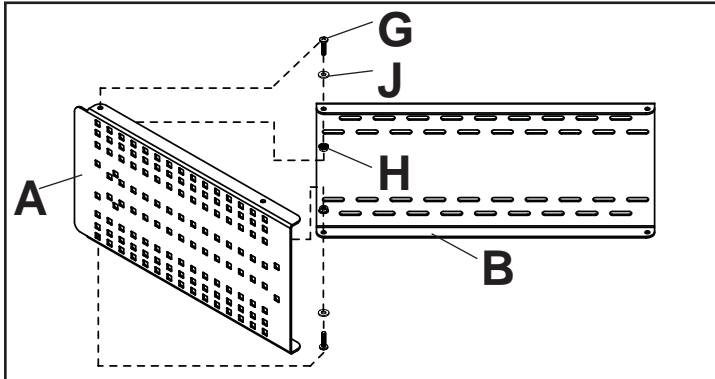
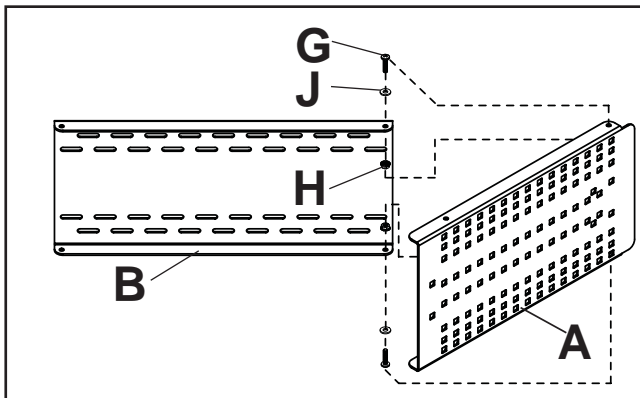

fig. 2.1
fig. 2.3
- 2 Attach interface plate (A) to wall plate (B) using two sets of 1/4-20 x 1" round phillips head screws (G), 1/4" flat washers (J) and 1/4-20 flanged serrated locknuts (H) as shown in fig 2.1 or 2.2 for interior corners or fig 2.3 or 2.4 for exterior corners. Repeat for opposite interface plate.
**NOTE:** Be sure top flange of interface plate (A) rests on top flange of wall plate (B).